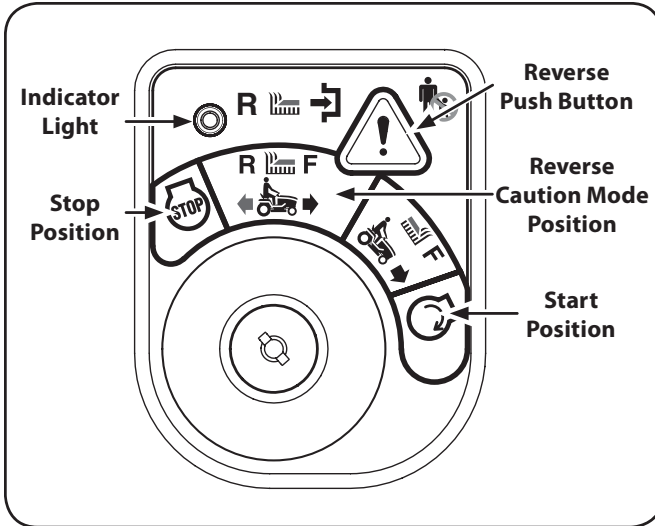

Figure 5-1
2. Turn the key from the NORMAL MOWING (Green) position to the REVERSE CAUTION MODE (Yellow) position of the key switch module. See Fig. 5-1.
3. Press the REVERSE PUSH BUTTON at the top, right corner of the key switch module. The red indicator light at the top, left corner of the key switch module will be ON while activated. See Fig. 5-1.